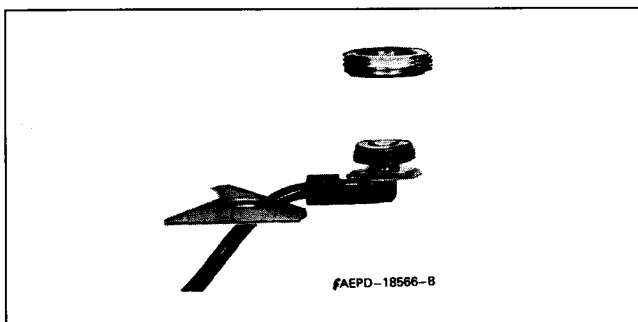

Figure 5. Coaxial Cable Insertion
Step 4. See Figure 5. From the top, feed the RG-58A/U lead-in cable between the headlining and the metal roof, and into the trunk. Then take up the slack from the trunk end of the cable.